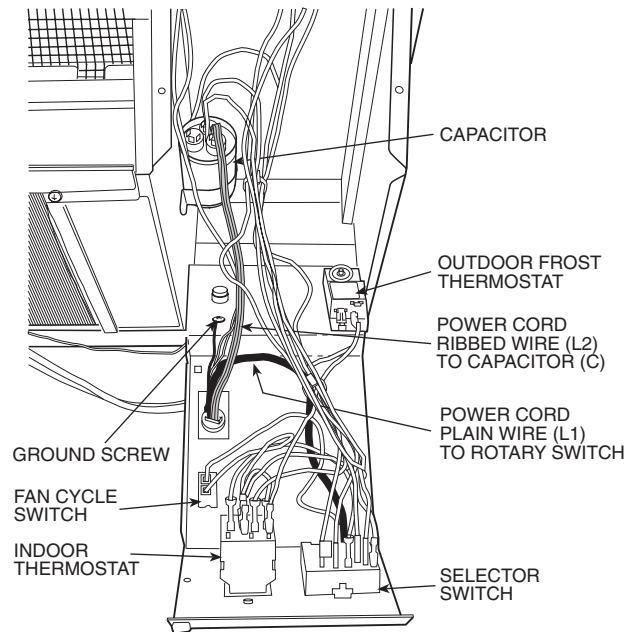

FIGURE 54 — COMPONENT LOCATIONS IN OPEN CONTROL BOX
3. Remove the 3 wires from the fan cycle switch. See Figure 54 for location, noting location of wires for re-assembly.
4. Remove all the wires to the selector switch. Label wires to simplify re-assembly. See Figure 54.
3. Label and disconnect the fan motor wires from the selector switch and capacitor as shown in Figure 54. Two-speed motors have 2 wires on the capacitor and 2 wires on the push button switch.